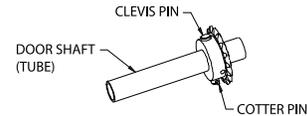

Figure 4C
- 4) Insert clevis pin through both holes and secure with cotter pin. **Fig. 4C.**